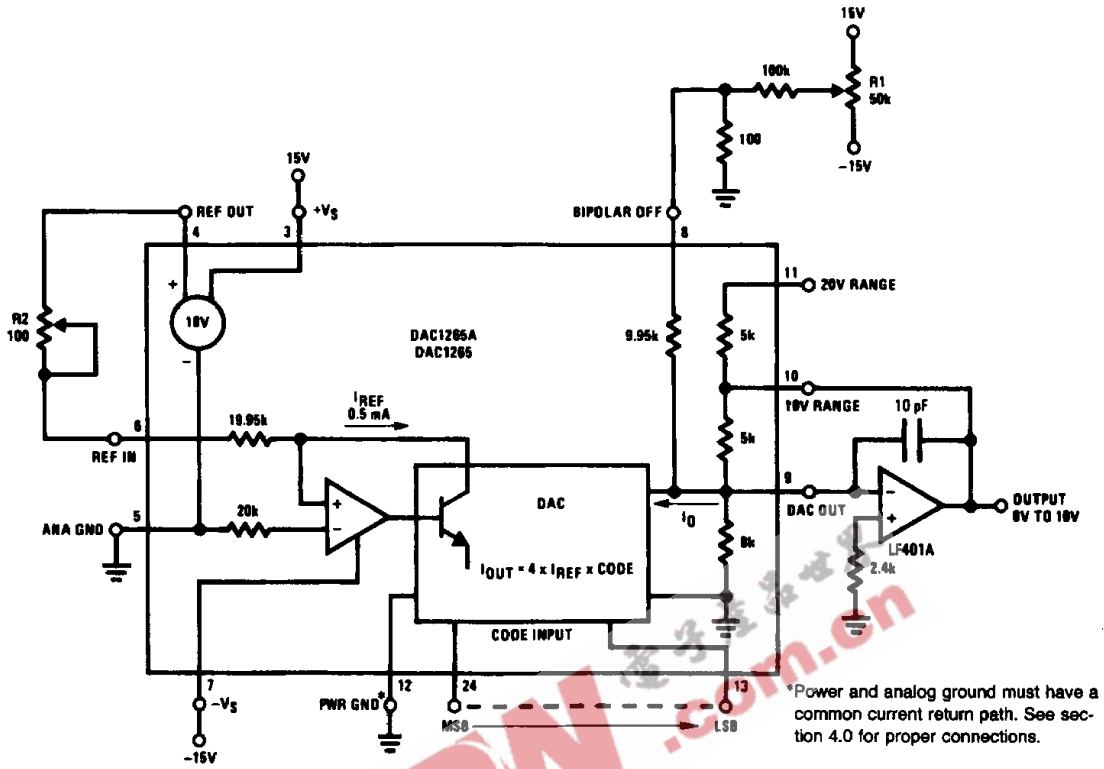
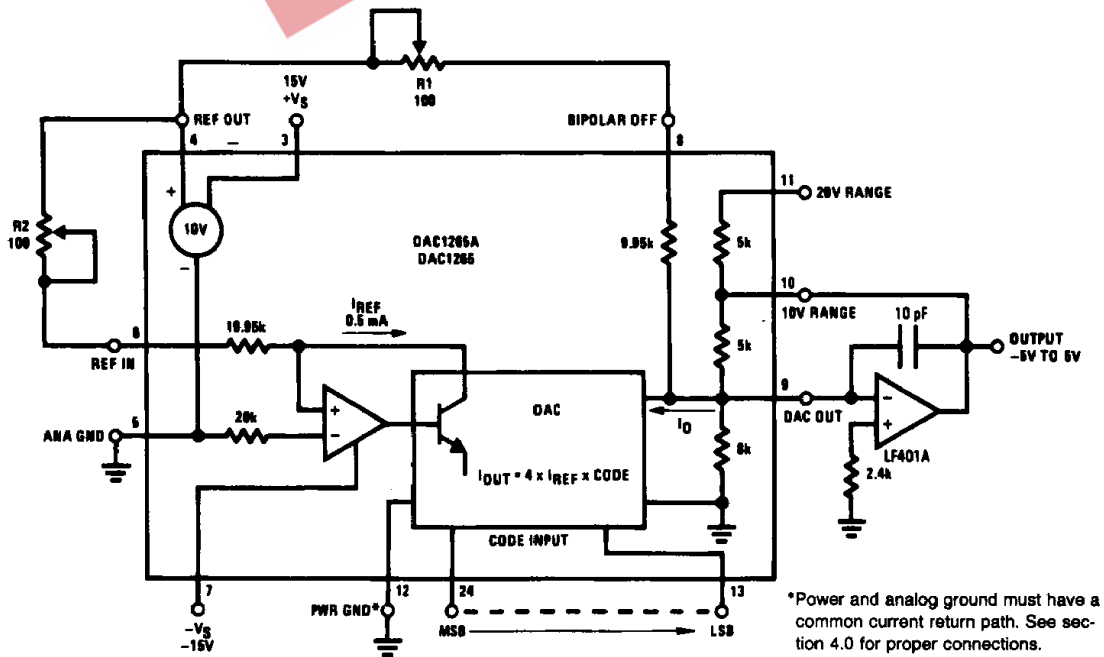

FIGURE 1. 0V to 10V Unipolar Voltage Output
FIGURE 2. $\pm 5V$ Bipolar Voltage Output
The standard current-to-voltage conversion connections using an operational amplifier are shown here with the preferred trimming techniques. If a low offset operational amplifier (LF401A) is used, excellent performance can be obtained in many situations without trimming (an op amp with less than 0.5 mV maximum offset voltage should be used to keep offset errors below $\frac{1}{2}$ LSB). Unipolar zero will typically be within $\pm \frac{1}{2}$ LSB (plus op amp offset), and if a 50 Ω fixed resistor is substituted for the 100 Ω trimmer (R2, *Figure 1*), full-scale accuracy will be within 0.1% (0.20% maximum). Substituting a 50 Ω resistor for the 100 Ω bipolar offset trimmer (R1, *Figure 2*) will give a bipolar zero error typically within ± 2 LSB (0.05%).
1.1 Unipolar Configuration (*Figure 1*)
1.2 Bipolar Configuration (*Figure 2*)